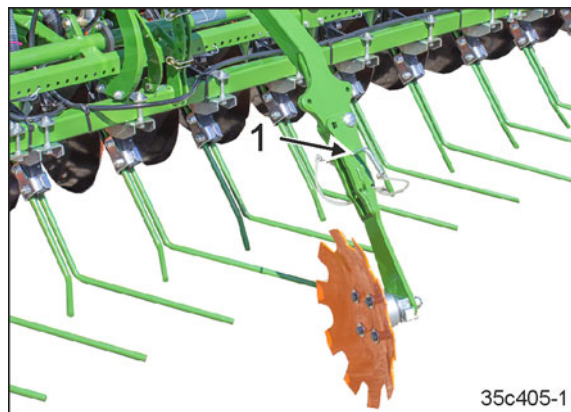

Fig. 241
3. Secure the connection by inserting the pin (Fig. 241/1) and locking it.